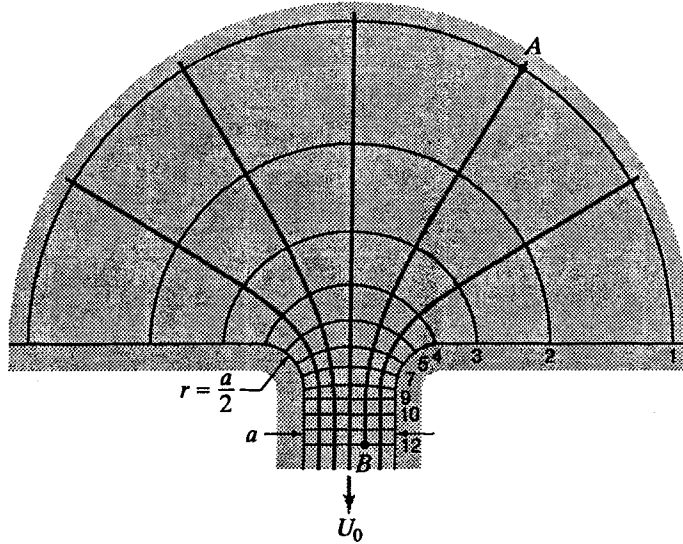

Figure X4.10.2
4.8 Refer to Fig. X4.10.2. If a is 3 in and U_0 is 10 fps, approximately how long will it take a particle to move from point A to point B on the same streamline? (Note: Between each pair of equipotential lines, measure Δs , and then compute the average velocity and time increment.)